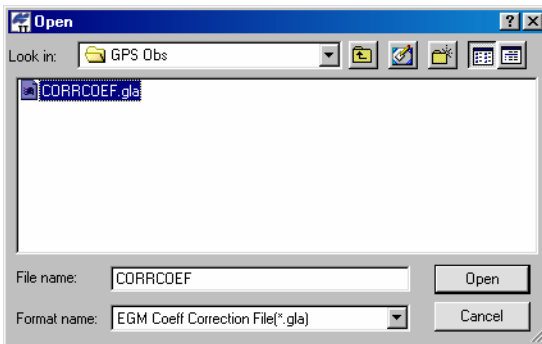

Figure A-2. Correction File Selection
3. Select the CORRCOEF.gla file and click **Open** (Figure A-2).